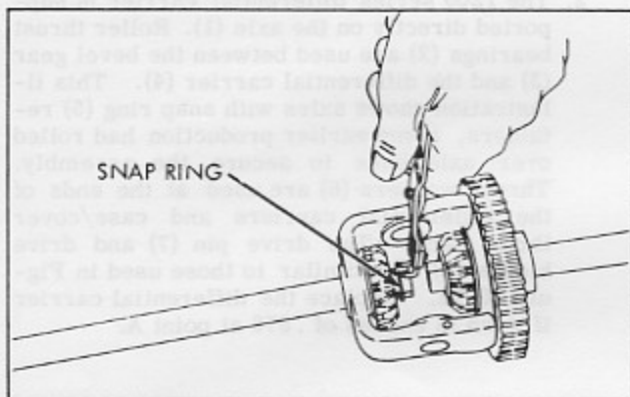

Figure 8-9
- (e) On double "D" type drives, remove snap ring, bevel gear and thrust washer. Slide axle out. See Figure 8-9.
- (c) On double "D" type drives, place bevel gears on the shaft and install snap ring in groove on the shaft. See Figure 8-9.